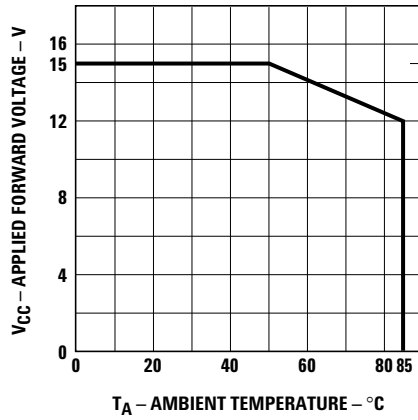

Figure 4. Maximum allowed applied forward voltage vs. ambient temperature $R\theta_{JA} = 175^{\circ}\text{C/W}$. 12 volt devices.
3. Derate from $T_A = 50^\circ\text{C}$ at 0.086 V/°C, see Figure 4.